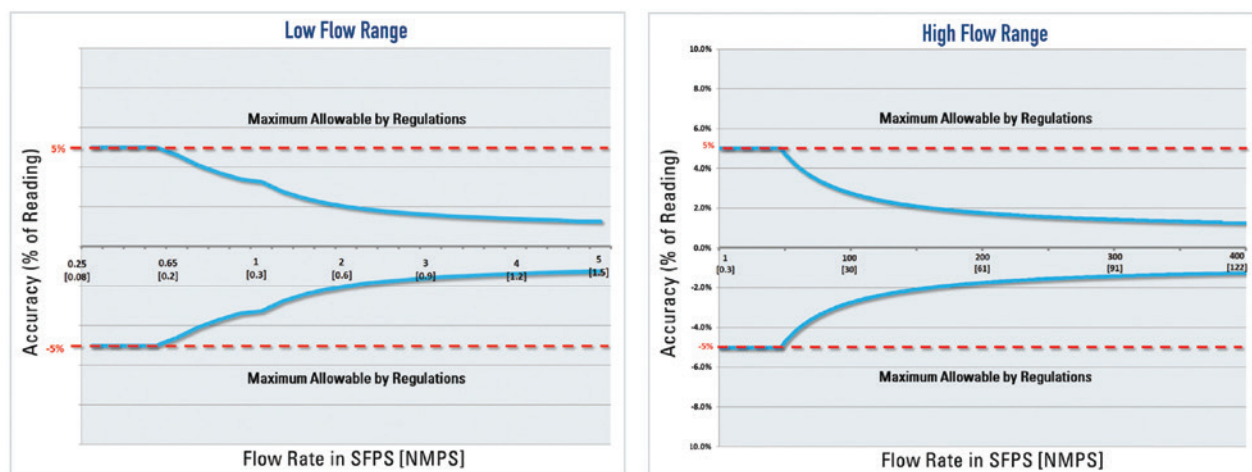

Figure 2: Typical Flowing Flare Gas Low Vs High Flow Ranges
Many oil/gas operators, refineries and chemical plants have flare applications uniquely challenged with two diverse operating flow conditions: (1) very low flow under normal conditions and (2) very high flow during an upset/blowdown condition (Fig 2). Site